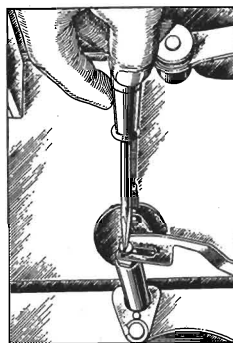

Figure 12—Adjusting height of elevator shaft
- (b) Improper adjustment of elevator shaft. The elevator shafts should rise to such a height as to give  $\frac{1}{16}$ " clearance between the lowest surface of the elevator pad bottom and the top of the empty magazine. This adjustment can be made by means of the screw and lock nut as shown in Figure 12.
**(8) FAILURE TO TRIP ON ECCENTRIC GROOVE**